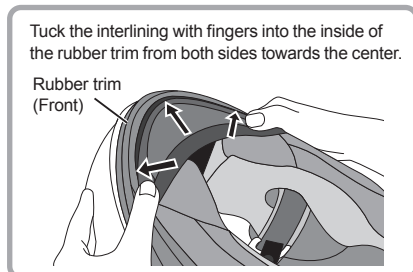

Fig. 3
3. Attach it uniformly from both sides toward the center. (Fig.3)